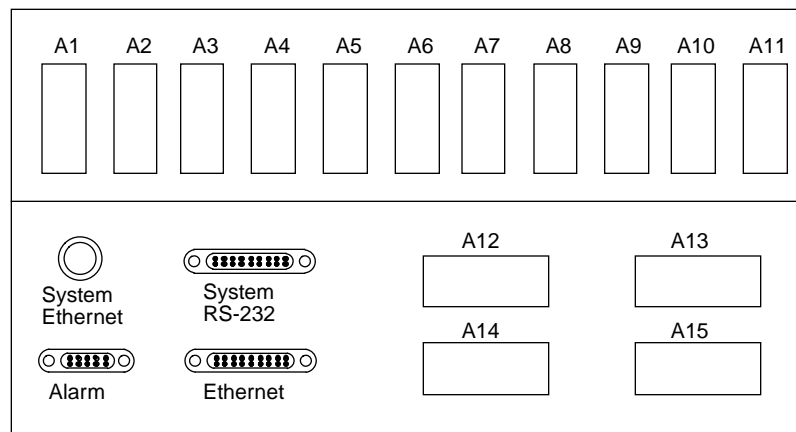

Figure 3. I/O Bulkhead
1. Remove the two appropriate I/O bulkhead plates (slots A1 through A11) that are each attached to the bulkhead by two screws. Refer to Figure 3. It is recommended that you use the two open slots that are farthest to the right.